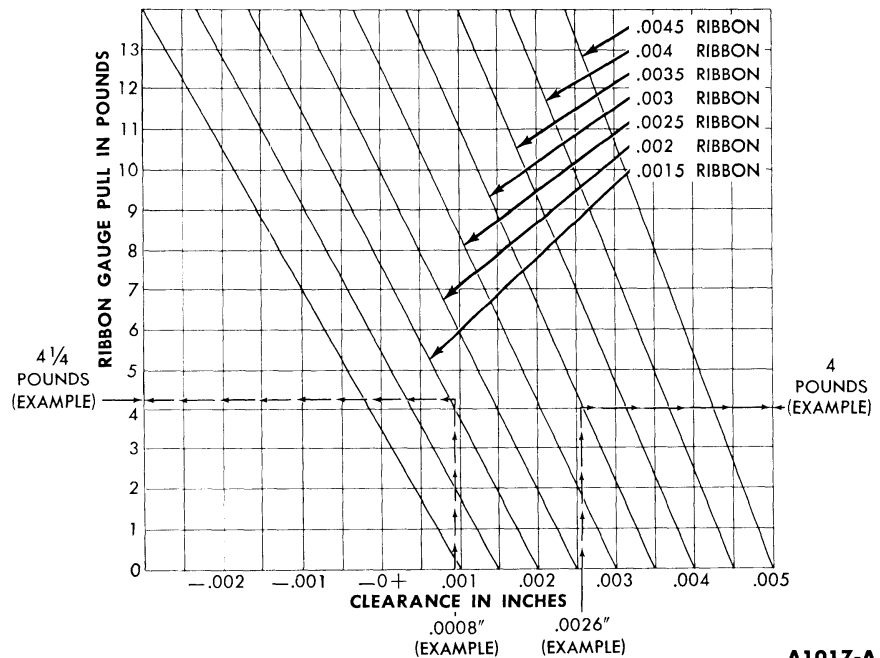

FIG. 24—Piston Clearance Chart
4. Attach a tension scale to the end of a feeler gauge ribbon that is free of dents or burrs. The feeler ribbon should be 1/2-inch wide and of one of the thicknesses listed in Fig. 24.
In Fig. 24, the diagonal lines represent feeler ribbons of various thicknesses, the horizontal lines represent the pounds pull, and the vertical lines represent the clearances. To determine the clearance, locate the line representing the pounds pull required to remove the feeler ribbon from the cylinder bore. Follow the horizontal line to the right until it intersects the diagonal line representing the feeler ribbon. Read down the vertical line for the clearance.
Example 1. If a 0.0015-inch feeler ribbon is used and it takes approximately 4 1/4-pounds pull to remove the feeler ribbon, the clearance is approximately 0.0008 inch. This is determined by locating the pounds pull (4 1/4) in Fig. 24 and following the line to the right until it intersects with the diagonal line representing the 0.0015-inch feeler ribbon. Read down the vertical line for the clearance (approximately 0.0008 inch).